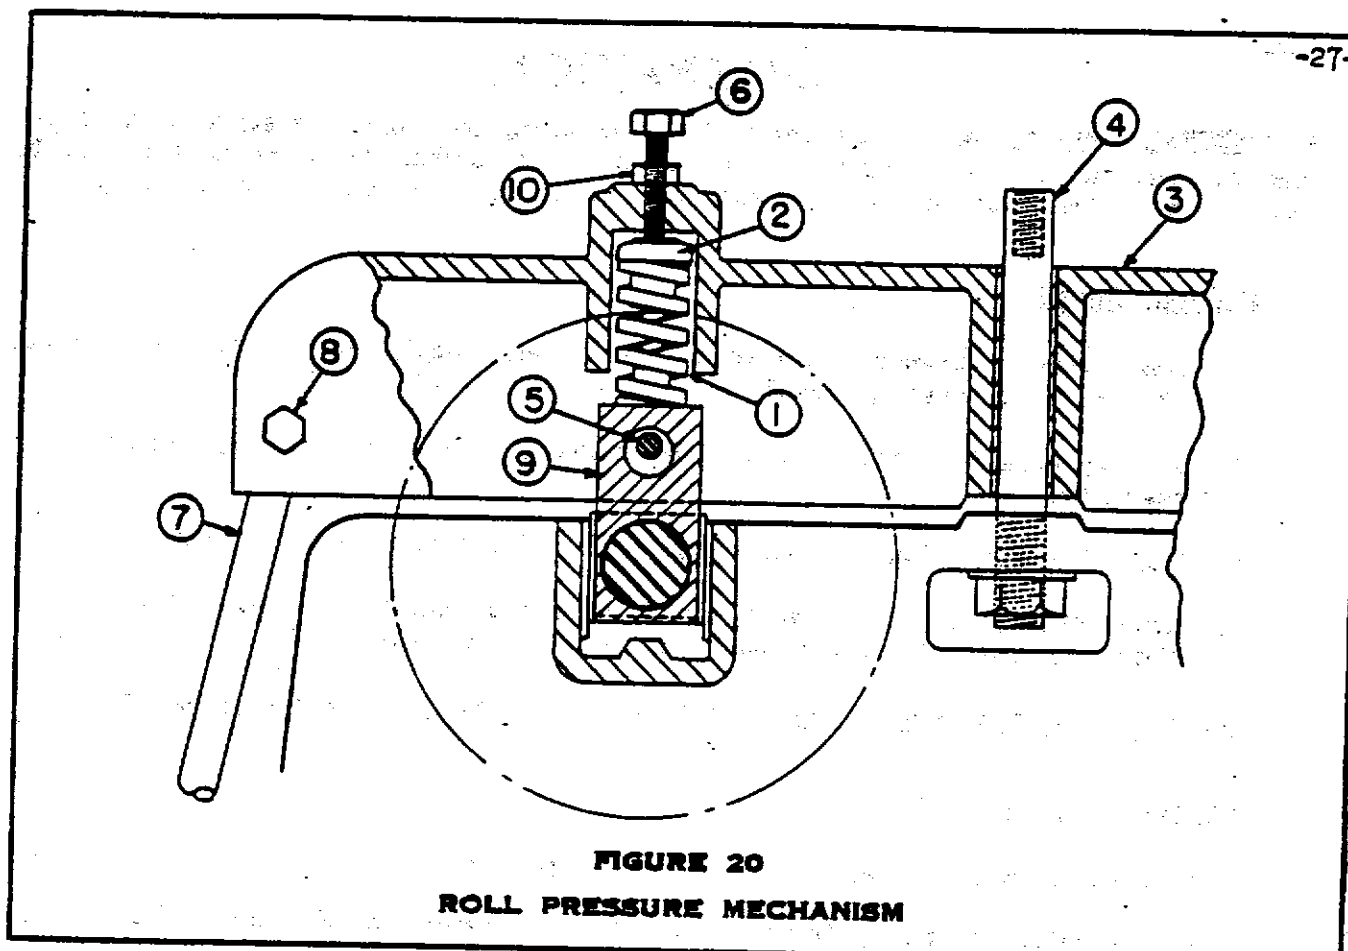

FIGURE 20
U. SETTING PRESSURE SCREWS - (Refer to Figure 20, opposite page) - The following explanation pertains to the 8-Roll SYLON Flatwork Ironer. Setting pressure screws on 4 and 6-Roll Ironer is relatively the same. Before setting pressure screws, run Ironer for half hour, then:
2. Check small pins (5, Figure 20) at each end of No.1 roll, and see if they are loose. If they are not loose, apply pressure gradually until they are. Do the same for each succeeding roll. Do not apply more pressure than is necessary to free these pins.
3. With Ironer running and pressure still applied, install pressure screws (6, Figure 20) for No.1 roll on both sides, turning screws down as far as possible by hand. Install pressure screws for other rolls in same manner.
4. With all pressure screws set finger tight, tighten lock nuts (10) on pressure screws of 8th roll. Then, using wrench: